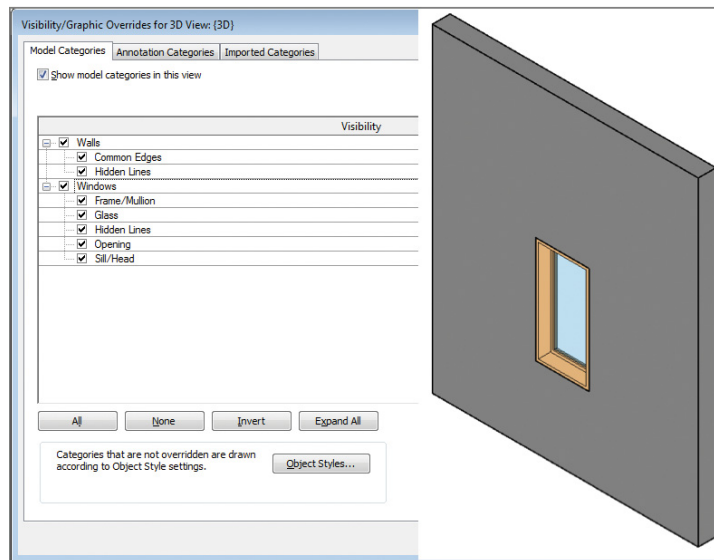

FIGURE 6.33 Visibility/Graphic Overrides for the host wall
2. Press VV on the keyboard to access Visibility/Graphic Overrides (the left image in Figure 6.33). Make sure the Walls category is checked as shown. The 3D view now resembles the image on the right in Figure 6.33. Use Zoom To Fit to adjust your view.